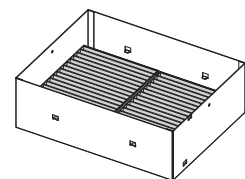

Fig. 3
- When the two air filter units are attached (Fig. 3), proceed to “Attaching the long life filter cover” (➔ page 258) next.